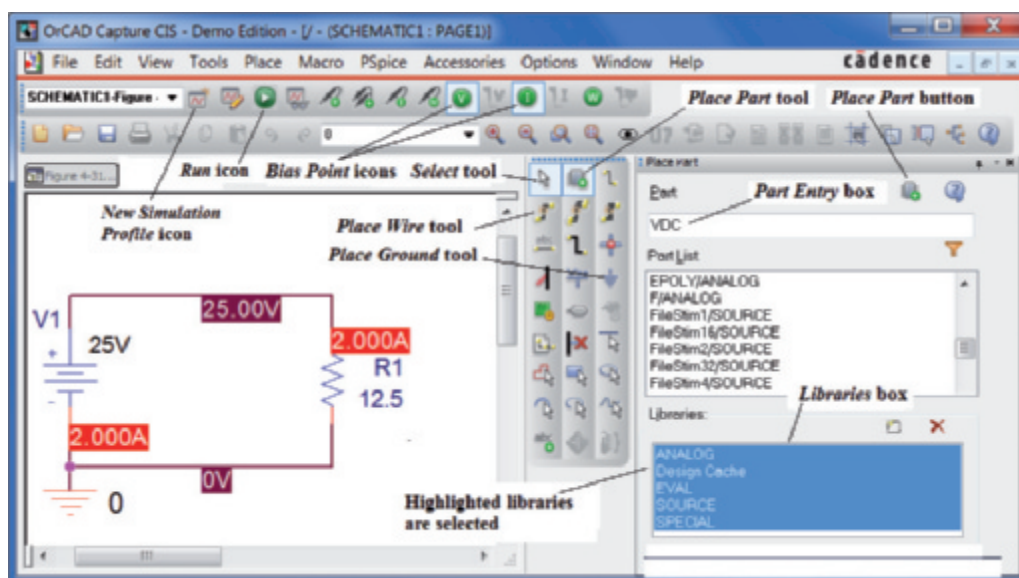

FIGURE 4–29 PSpice simulation of Figure 4–27 using the bias point analysis technique.
Double-click the PSpice shortcut icon—see Notes 1 and 2. On the screen that opens, click *File*, select *New*, then *Project*. In the *New Project* box, type **Figure 4–29** into the *Name* box, ensure that *Analog or Mixed A/D* is selected, then click the *Browse* button. Navigate your way through the directory tree until you locate *Ch 4*, (the subfolder that you just created), double-click, then click *OK* to close the box.
Click *OK* again. This opens the *Create PSpice Project* box. Select *Create a blank project*, then click *OK*. On the next screen, you will see *Schematic 1: Page1*. (This is the screen on which you will build your circuit. Click its *Maximize* button. It should look much like Figure 4–29 of the textbook except that it will be blank, and the *Place Part* box on the right-hand side will not be open.) Note the buttons, tools, and other items identified on Figure 4–29. Locate these on your screen. Poke around with your mouse and spend a bit of time studying the screen to get familiar with it. (Familiarity is important as we refer to items by name and you need to be able to locate them.) Note that a number of items are inactive, but they will become active when needed.
You are now ready to build the circuit of Figure 4–27. It should look like Figure 4–29 when completed. Review the *PSpice Operational Notes*, refer to the icon identifications in Figure 4–29 for guidance, then proceed as follows:
- Ensure that all entries in the libraries box are highlighted as in Figure 4–29. If they aren't, click the first entry (to highlight it, press and hold the shift key on your keyboard, then click the last entry in the list. This should highlight all entries as indicated in Figure 4–29. This means that all are selected.)
- A battery symbol will appear as a “ghost” attached to your cursor. Position it as in Figure 4–29, then click once. To end placement, move your pointer to an empty spot, right-click, then left-click *End Mode*—see *PSpice Operational Notes*, Note 2. This gets back your normal mouse pointer.